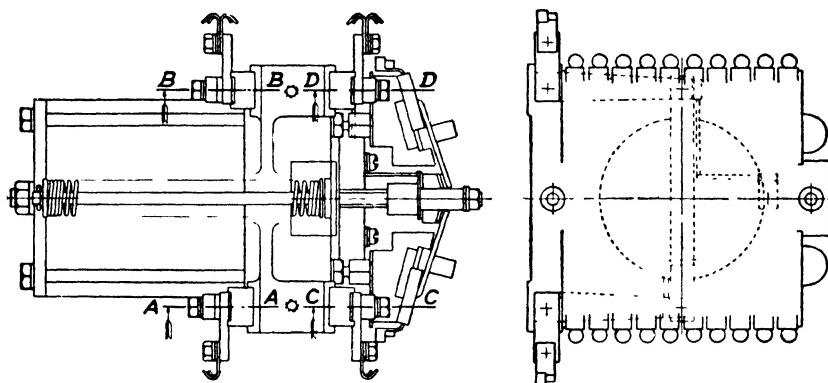

Fig. 34. Method of Assembly of Coil Supports for Voltage Control Relay, Type 17LH22C1
*4. Coil Replacement.* It is advisable to remove the relay to a bench when replacing coils. Refer to Figs. 28, 29, 30, 31, and 32, for structural details. Figs. 34, and 35 show the order of assembly of the various parts in the floating coil supports.